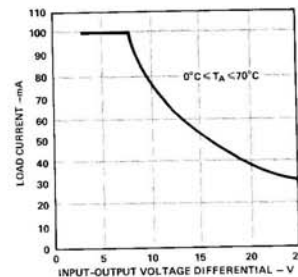

Figure 13. Maximum Load Current vs. Regulator Input-Output Voltage Differential
**Bridge Excitation (2B31):** The adjustable bridge excitation is specified to operate over a wide regulator input voltage range (+9.5V to +28V). However, the maximum load current is a function of the regulator circuit input-output differential voltage, as shown in Figure 13. Voltage output is short circuit protected and its temperature coefficient is  $\pm 0.015\% V_{OUT}/^{\circ}C$  max ( $\pm 0.003\%/^{\circ}C$  typ). Output temperature stability is directly dependent on a temperature coefficient of a reference and for higher stability requirements, a precision external reference may be used.